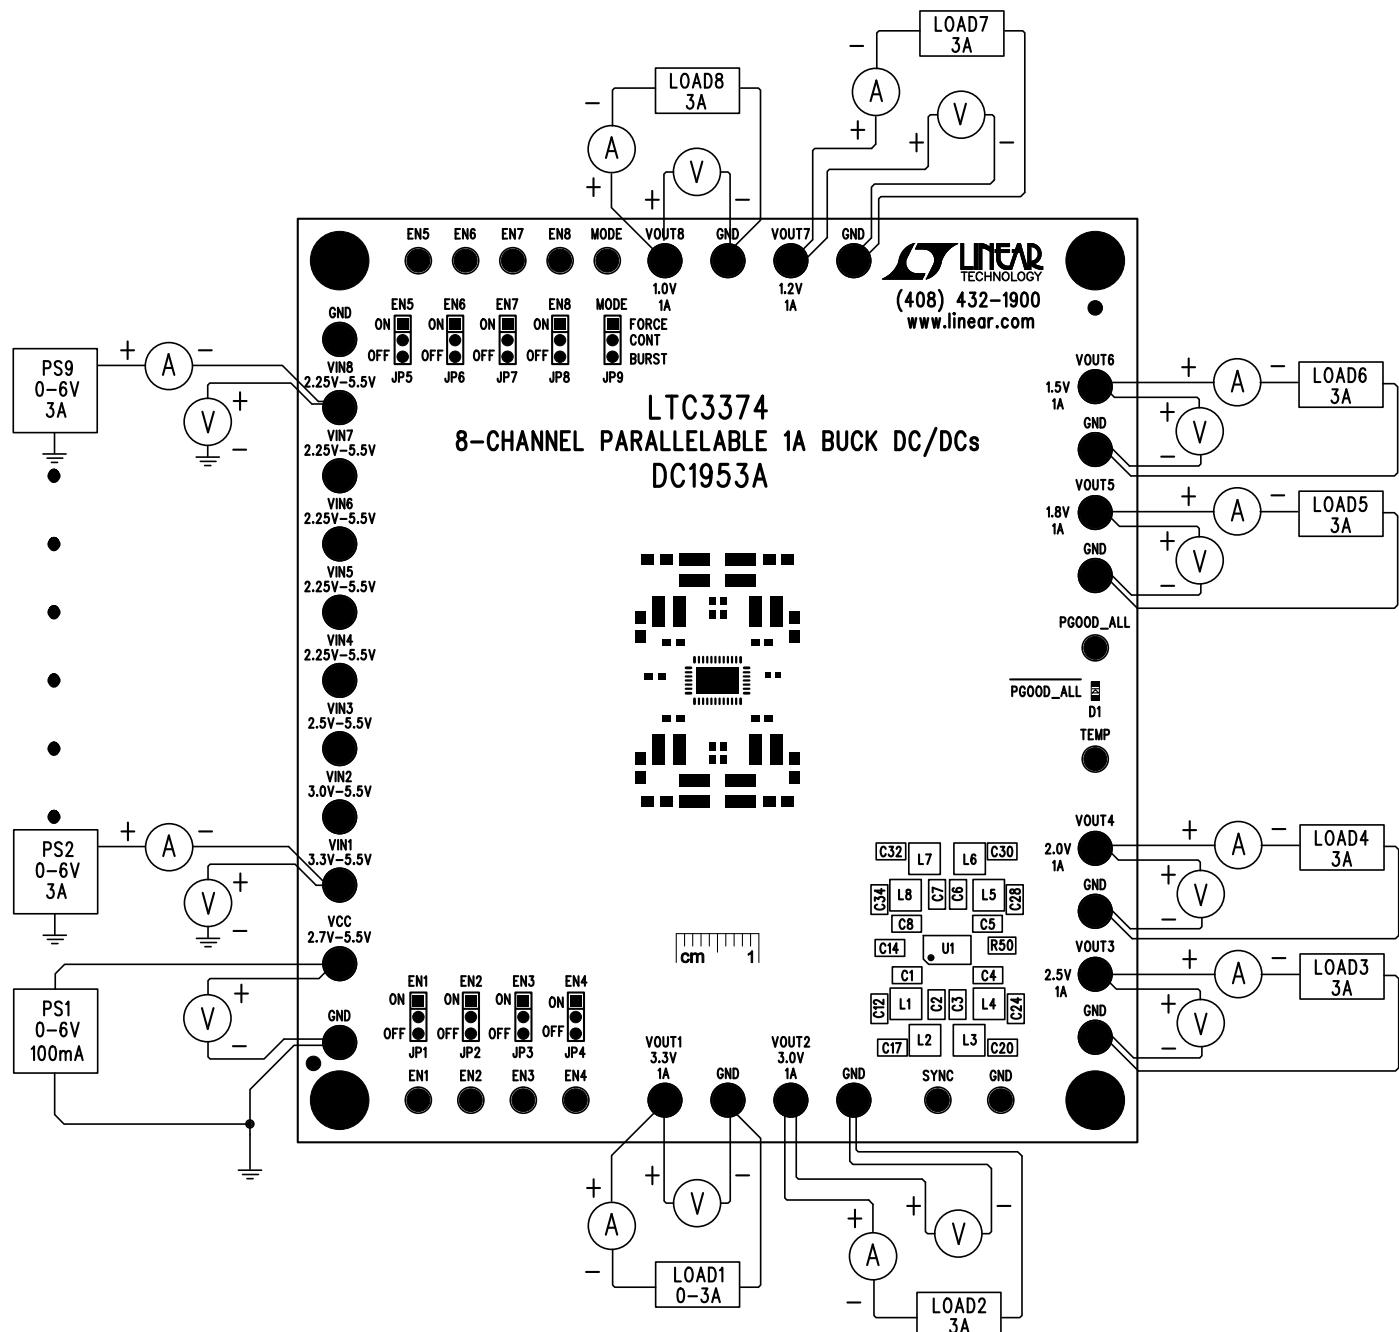
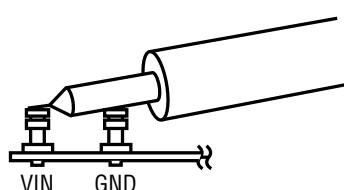

Figure 1. Proper Measurement Equipment Setup
Figure 2. Measuring Input or Output Ripple
The DC1953A is easy to set up to evaluate the performance of the LTC3374. Refer to Figure 1 and Figure 2 for proper measurement equipment setup and follow the evaluation procedure below.
Note: When measuring the input or output voltage ripple, care must be taken to avoid a long ground lead on the oscilloscope probe. Measure the input or output voltage ripple by touching the probe tip directly across the VIN or VOUT and GND terminals. See Figure 2 for proper scope probe technique.
3. With power off, connect a 0V to 6V, 100mA power supply to VCC and GND with a voltmeter as shown in Figure 1.
4. With power off, connect a 0V to 6V, 3A power supply to each VIN and GND with a series ammeter and a voltmeter as shown in Figure 1. A single 0V to 6V, 10A supply can be used instead to supply all VIN inputs simultaneously.
7. With power off, connect a 0V to 3A load to each VOUT and GND with a series ammeter and a voltmeter as shown in Figure 1.
8. Slowly increase LOAD1 from 0A to 1A and observe the output voltage. The output ripple may also be observed using an oscilloscope with the probe connected as shown in Figure 2.